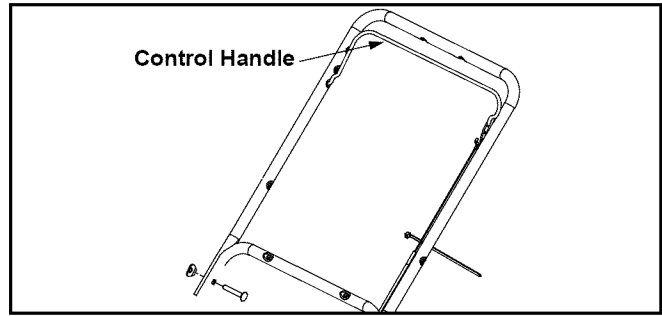

Figure 5
- Engage the auger by squeezing the control handle against the upper handle. See Figure 5.